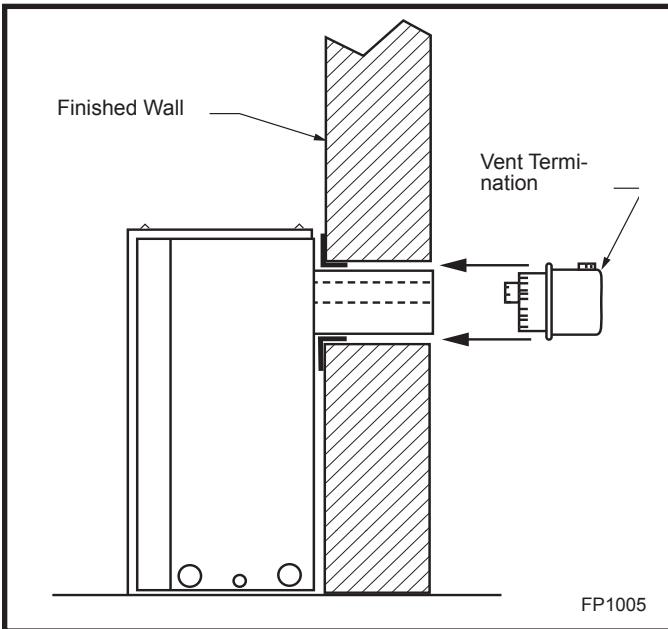

Fig. 20 Side view of final unit location.
Slip 4" and 7" pipes onto respective flue collars. Make sure to fix to the fireplace collar the 4" pipe with three (3) screws before fixing the 7" pipe on the 7" collar. Both pipes must be on a level plane. (Fig. 20)